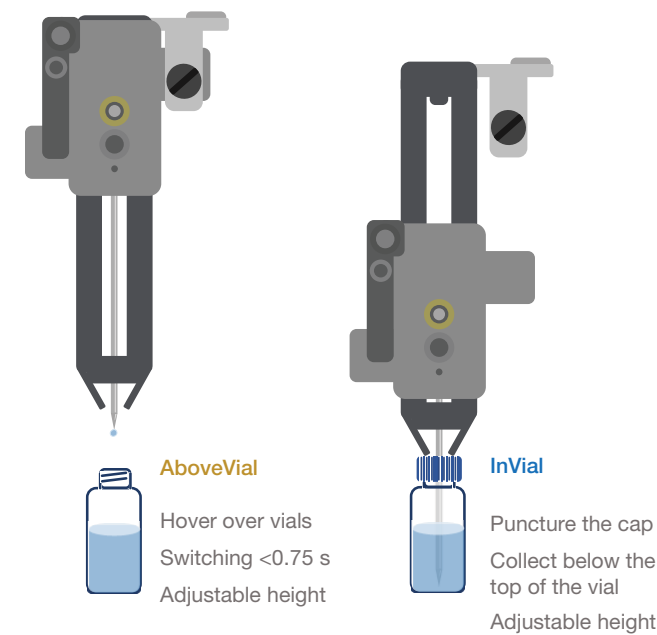

Figure 1. Two fractionation modes: AboveVial and InVial
The Thermo Scientific™ Vanquish™ Analytical Purification LC system provides high-resolution sample separation followed by precise sample purification, which is facilitated by the integrated Thermo Scientific™ Vanquish™ Fraction Collector (FC). The Vanquish FC comes with a 3-axis motion control, which enables the two collection modes—AboveVial and InVial—for flexible multi-application purposes (Figure 1).1